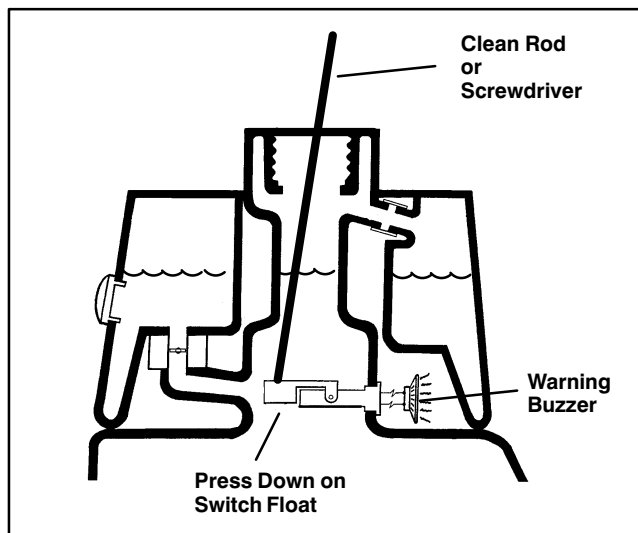

Figure 25
- C. Insert a clean rod or screw driver into tank neck and gently push down on switch float (Fig. 25). Alarm should sound after one second delay.